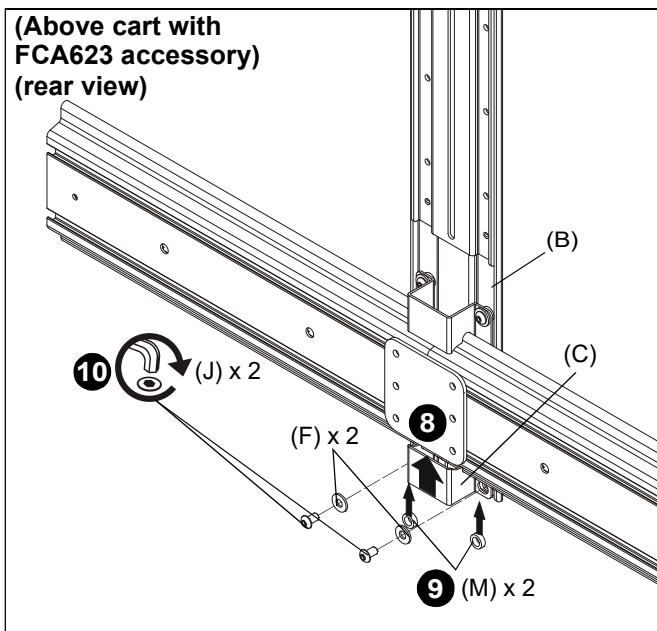

Figure 19
8. Slide second shelf bracket (C) underneath head assembly, lining up holes on shelf bracket (C) to holes on main bracket (B). (See Figure 19)
9. Slide two 1/2" spacers (M) in between shelf bracket (C) and main bracket (B). (See Figure 19)
10. Use two 1/4-20 x 1/2" button head cap screws (J) and two large washers (F) to secure shelf bracket (C) to main bracket (B). (See Figure 19)